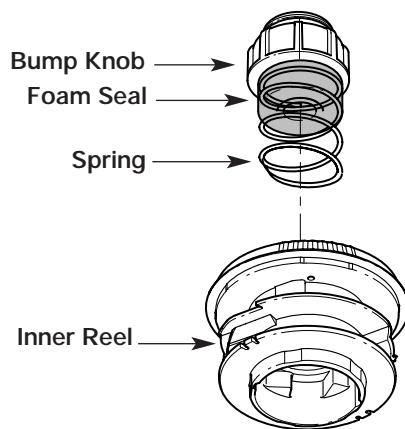

Fig. 18
1. Turn the bump knob counterclockwise and remove the bump knob, spring and foam seal (Fig. 18).
7. Place the bump knob, spring and foam seal into the inner reel (Fig. 18).